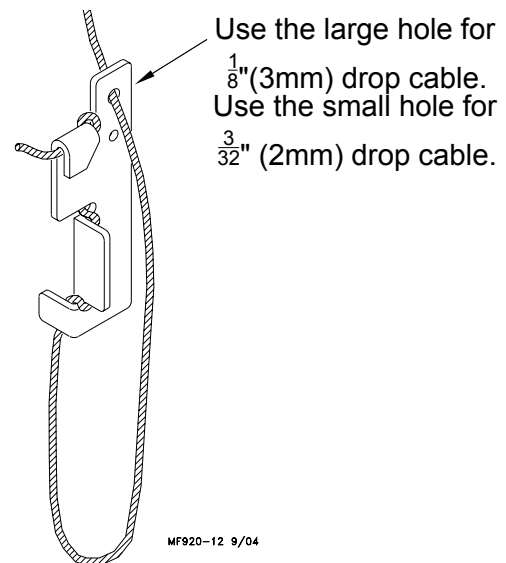

Figure 61. Adjustment Leveler Installation
6. Install Adjustment Leveler within 6" (152 mm) of feeder line. **Figure 61** shows the proper cable routing around the Adjustment Leveler.